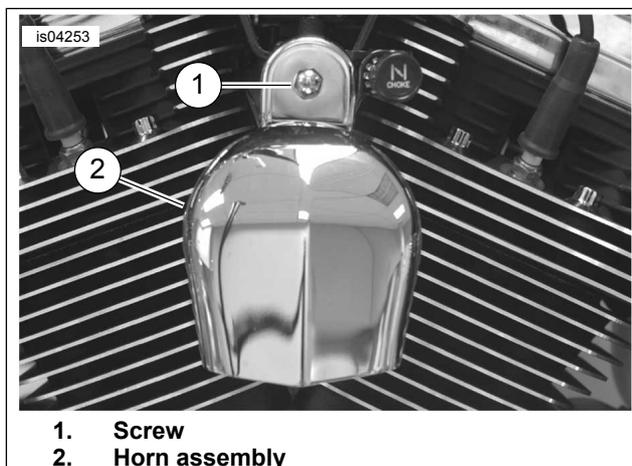

Figure 1. Remove Horn from Horn Bracket (1200C Shown)
2. **XL1200C Models:** See Figure 1. While holding the chrome screw (1) in front, remove the flange nut (in back of bracket) securing the horn assembly (2) to the horn bracket. Note location and disconnect the two horn connectors from horn and set aside. Save all hardware for installation